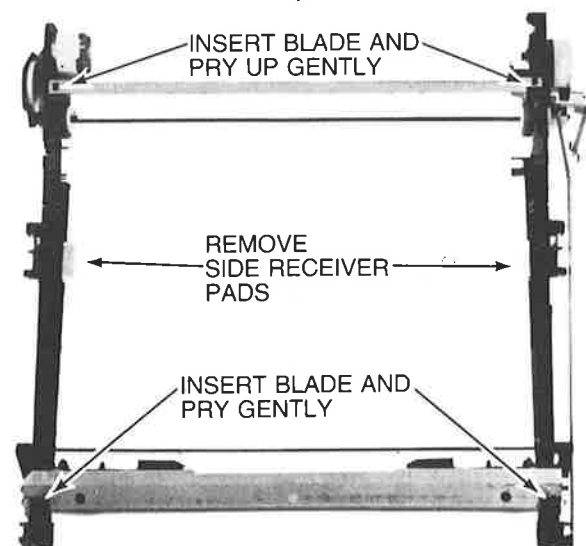

Fig. 18—Guide Rail Assembly
9. To separate the Left and Right rail assemblies the cabinet support bracket (Fig. 18) and the pivot support bracket (Fig. 18) must be removed.